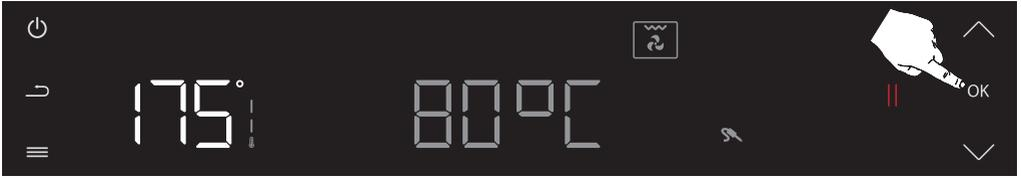

Figure 105
Press the confirmation button (OK) once to confirm the selection of the cooking function with meat probe. (see figure 105)